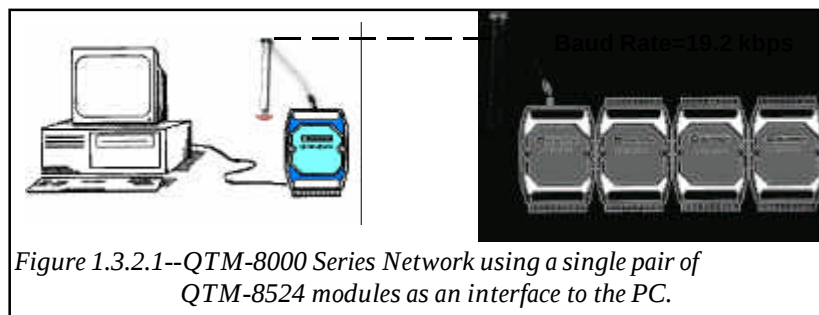

Figure 1.3.2.1--QTM-8000 Series Network using a single pair of QTM-8524 modules as an interface to the PC.
For wireless networks, the QTM-8524 can convert and control the RS-485 network. However, a single baud rate, channel, and frequency must be jumper selected for each module pair. This means that if a QTM-8524 is connected directly to the computer's serial port, the network can only function at a single baud rate. To support multiple baud rates in a QTM-8000 wireless network, the QTM-8520 must be used in conjunction with a pair of QTM-8524 RF modules for each desired baud rate. (See figures 1.3.2.1 & 1.3.2.2)
Figure 1.3.2.2--Using a QTM-8520 converter module in conjunction with multiple pairs of QTM-8524 modules to support multiple baud rates in a wireless QTM-8000 Series network
1.3.3 Operation Principle (Refer to *Figure 1.3.2.1* & *1.3.2.2*):